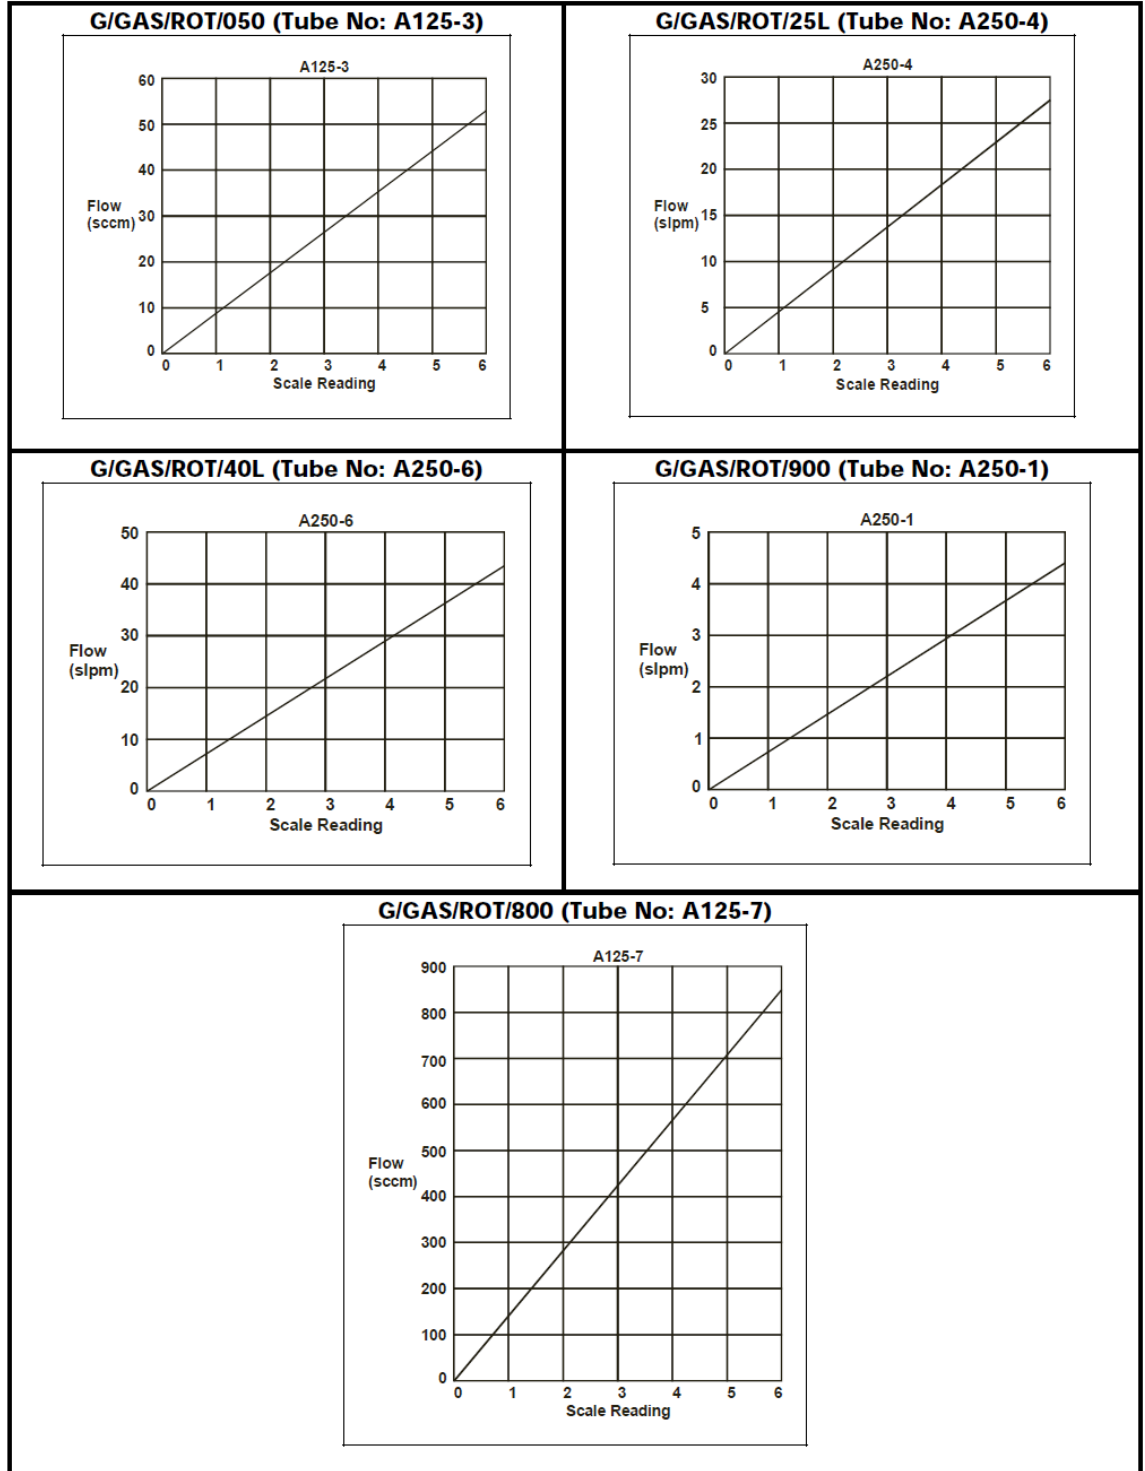

Figure 5-27 Rotameter calibration graphs
- 2 Check the tube number (marked on the rotameter tube). Then refer to the relevant graph in Figure 5-27 and note the required scale reading.